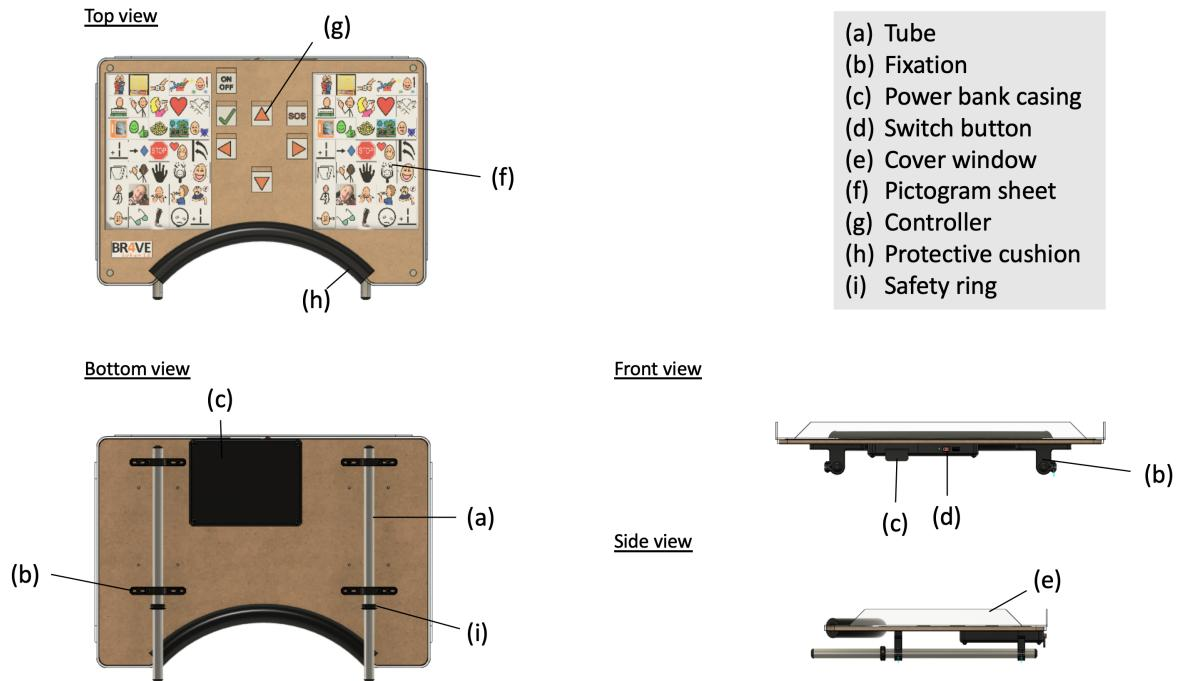
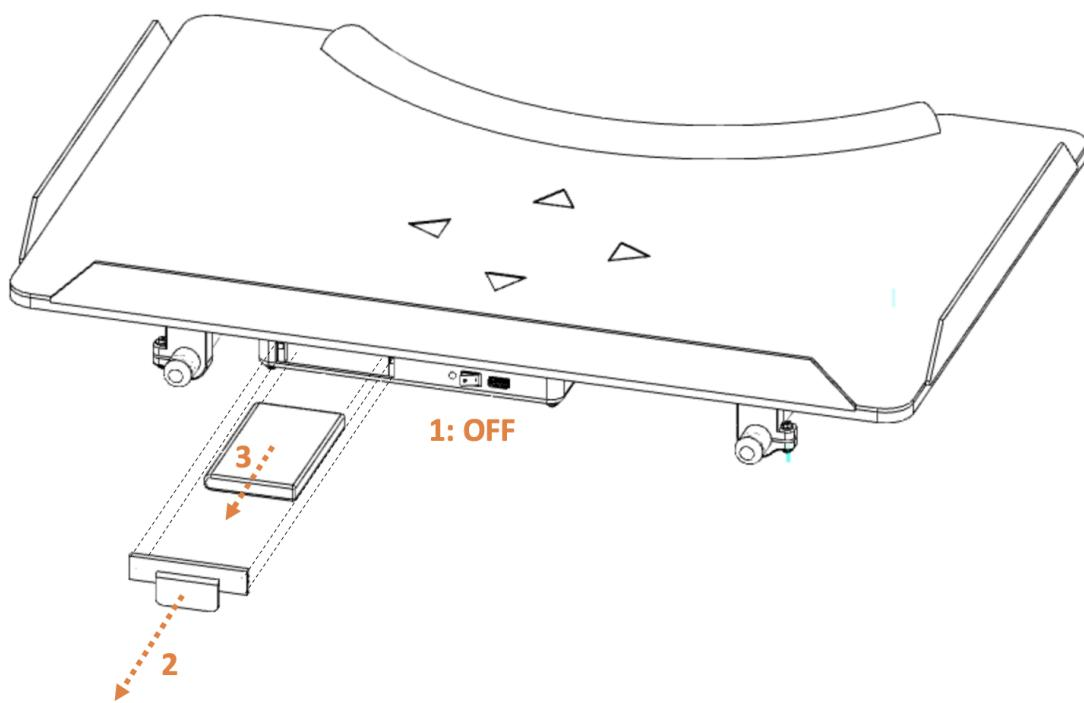

Figure 1: Designed product with labels
Figure 3: Procedure to remove the power bank
The device is designed to be mounted on a wheelchair. The user can easily slide the two bars present in Figure. 1 (a), into the tubes allocated for that purpose. The position of the bars can be adjusted by using the screws.(see (a) and (b) on Figure 1).
- Power supply:** For the first use the device needs to be charged. A power bank, placed into a box (see (c) on Figure 1) manages the power supply. Remove the power bank from the electronic box as shown on the Figure 3 and plug it into a power outlet. When fully charged, put it back into the electronic box and insert it back into the device.
- Turn on the device:** Using the switch button illustrated as (d) on Figure 1, turns on the device.
- Make sure that the power bank (shown on Figure 1 as (c)) is fully charged. If not, please refer to the *First Utilization* section for instructions.
- Turn on the device:** Use the switch button, placed on Figure 1 (d) to turn on the device. If the device has turned on correctly, a LED placed next to the switch button will also turn on.
- Use the controller:** By touching one of the arrows (shown as (g) on Figure 1, the user is able to control the computer it is connected to, and to move the cursor on the screen. The controller is composed of 4 arrows, one for moving in each direction: up, down, left and right. When one of this button is selected, a visual feedback is activated, the LEDs at the top of the button are turned on.
7. Use the pictograms: Apart from the controller, the rest of the device is composed of sheets of pictograms that can be used for communication with a person close-by, by pointing at them with the finger (illustrated on Figure 1 as (f)).
8. Power Off: Use the switch button, placed on Figure 1 (d). The LED light will turn off.
Setting up/changing the pictograms : The transparent layer labeled as (e) on Figure 1 is fixated to the device using magnets, and can be removed carefully. Then the sheet of pictograms (see(f) in Figure 1), embedded in a plastic pouch, can be removed and changed. Once done, just place the new sheet of pictograms into the plastic pouch, place it back onto the support of the device, and place the cover window back on top as illustrated (2).